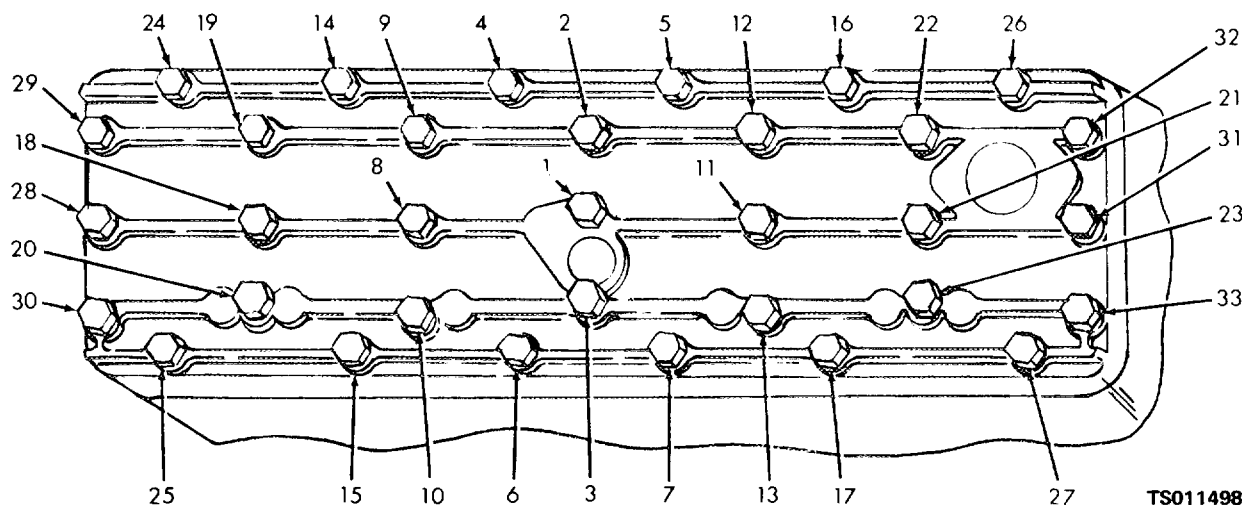

Figure 4-2. Cylinder head capscrew tightening sequence.
(1) Remove all carbon from combustion areas with a scraper and wire brush. Clean all remaining residue from the cylinder head with cleaning solvent (Fed. Spec. P-D-680). Dry with clean, dry, compressed air.
(2) Clean the top of the cylinder block with a scraper and a cloth dampened in cleaning solvent. Be careful that you do not get dirt in the cylinders or water jacket.
(3) Inspect the cylinder head for cracks, corrosion, damaged threads, plugged water ports, or other defects.
(4) Check flatness lengthwise with a straightedge and feeler gage. The maximum permissible low spot is 0.012 inch (0.0300 cm) in the center, gradually decreasing toward the ends. Check flatness lengthwise at each edge and in the middle of the head.
(5) Check flatness crosswise with a straightedge and a feeler gage. The maximum permissible low spot is 0.003 inch (0.0075 cm) in localized areas. Check flatness crosswise at each end and between each combustion chamber.
(6) Inspect cylinder head studs for looseness or damaged threads.
(7) Replace the gasket, hoses, and defective parts.
c. *Installation.* Using a new head gasket, install head in reverse order of removal. Tighten the cylinder head screws according to the sequence shown in figure 4-2. Torque to 35 to 40 foot-pounds (4.840 to 5.532 kgm).